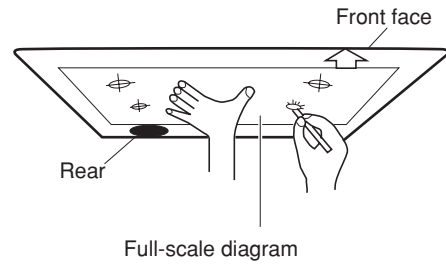

Fig. 3-1
- (1) Place the full-scale diagram (supplied) on the ceiling at the spot where you want to install the indoor unit. Use a pencil to mark the drill holes. Refer to Table 3-1 and Figs. 3-1 and 3-3.
- (1) When placing the unit inside the ceiling, determine the pitch of the suspension bolts using the supplied full-scale installation diagram. (Fig. 3-1)